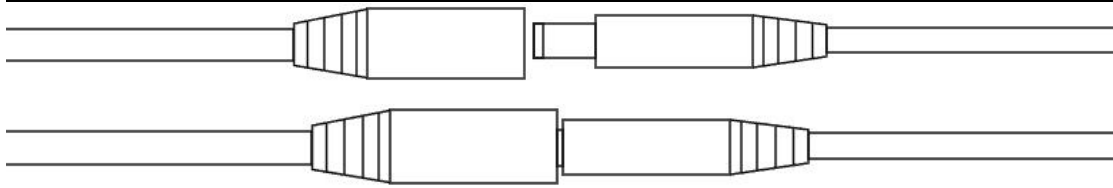

Figure 3-2 Round Plug Connection
2. Connect the power cable and the power adapter to the power source, and connect the round plug at the end of the power adapter to the round connector of the USB cable, as shown in Figure 3-2.